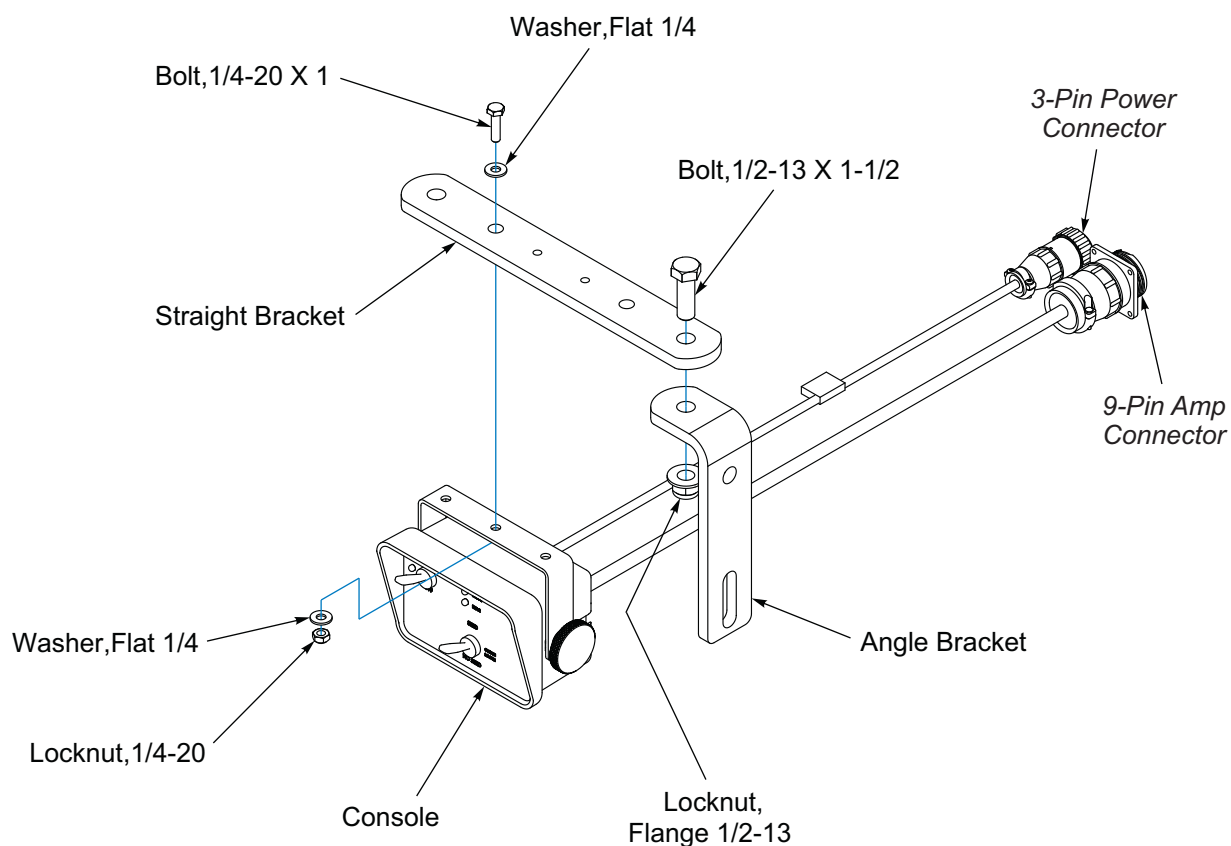

Figure 2-38: Console w/Clutch Control Tractor Installation - Optional
1. Mount Angle Bracket onto Tractor where convenient for the operator. **See Figure 2-38.**